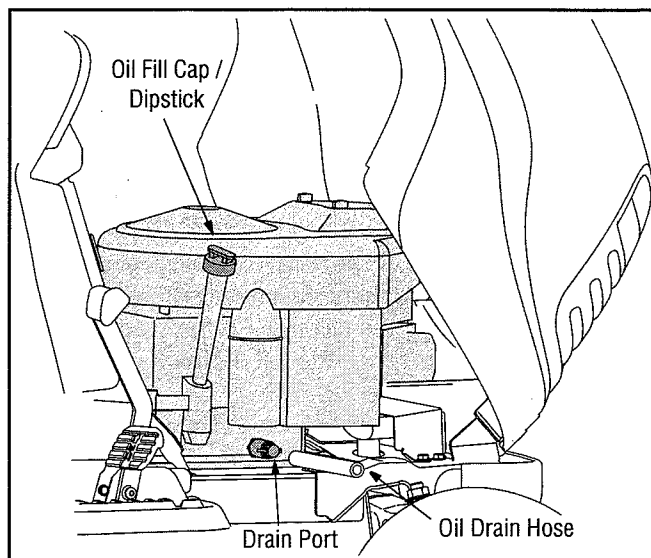

Figure 16
2. Clean the area around the oil fill cap/dipstick to prevent debris from entering the crankcase. Refer to Figure 16.
1. Pop open the protective cap on the end of the oil drain valve to expose the drain port. See Figure 16.